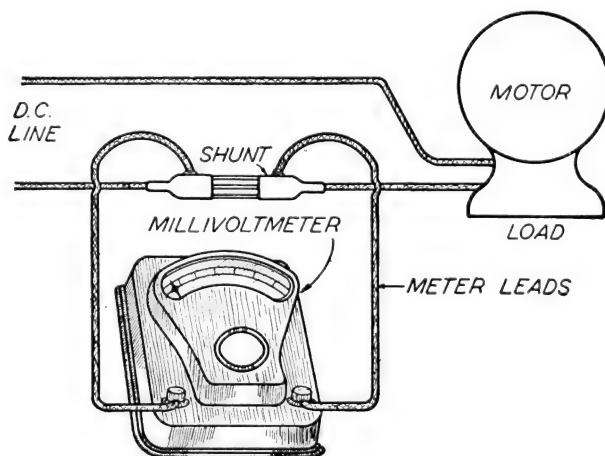

Fig. 28. Connection of Millivoltmeter and Shunt in Motor Circuit
**Use of the Ammeter.** The ammeter is intended to indicate the current flowing through a circuit. To measure current the shunt is connected in series in the line to be checked. Fig. 28 shows a millivoltmeter and shunt connected to measure the current taken by a motor.